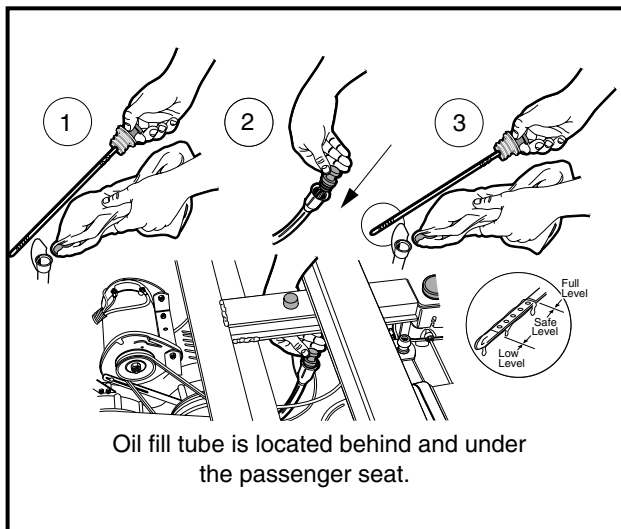
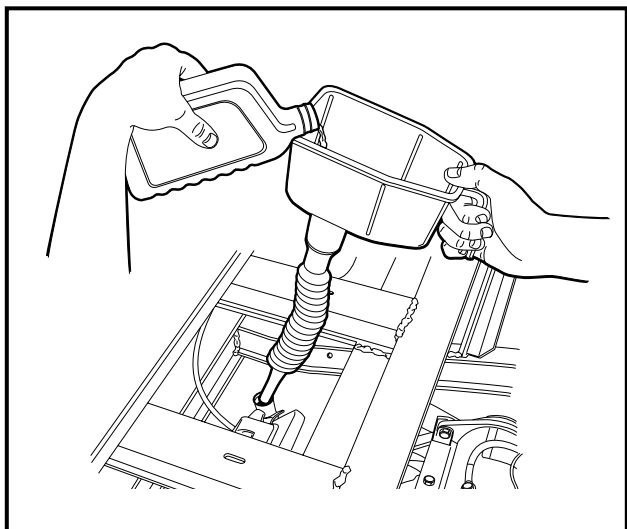

Figure 13-41 Check Engine Oil Level
Figure 13-42 Add Engine Oil
10. Apply a light film of clean engine oil onto the seal of the new oil filter and install the filter. Tighten the filter 2/3 turn after gasket contact. Fill crankcase with the correct level of oil (Figure 13-41, Page 13-22 and Figure 13-42, Page 13-22). **See Periodic Service Schedule, Section 10, Page 10-3.**